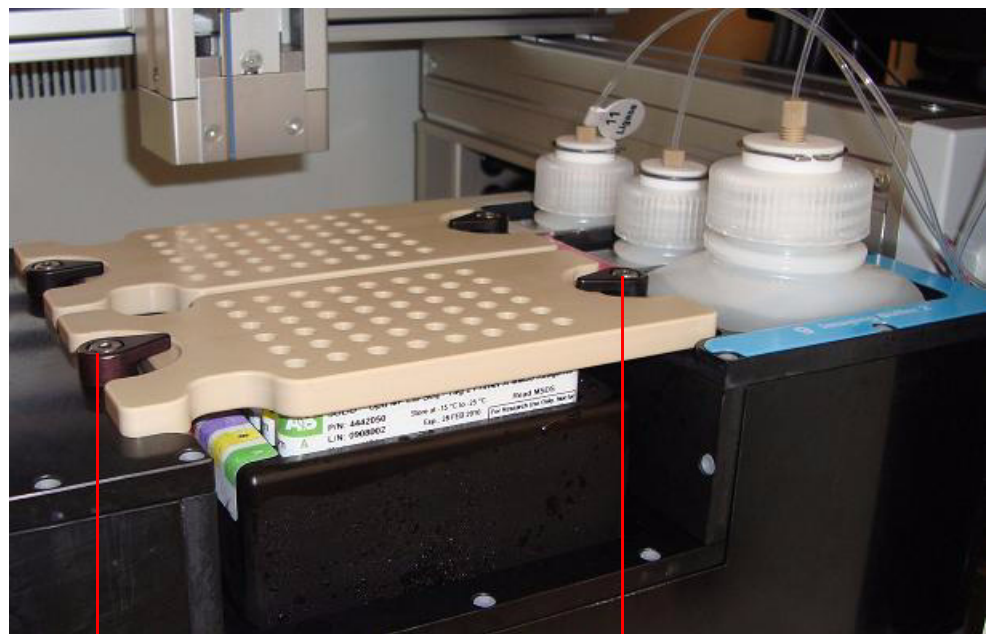

Figure 34 Position of the sequencing reagent blocks for flowcells 1 and 2.
- When the temperature is less than 10 °C, place the reagents in the appropriate location in the chiller block (see Table 5 and Figure 34 on page 36).